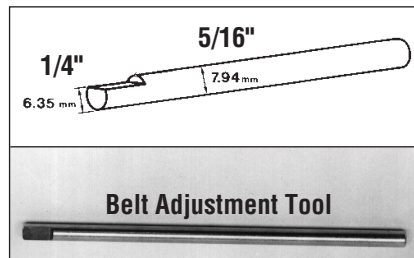

Figure 5-11: Use this belt adjustment tool to measure and adjust drive belt tension.
1. Before taking a measurement, be sure the linkages and pivot points on the Wheels/Tines/PTO Drive Lever are clean and lubricated. If there is any binding, you won't get true measurements. Also, you'll need the belt adjustment tool you received with your new tiller (Figure 5-11).